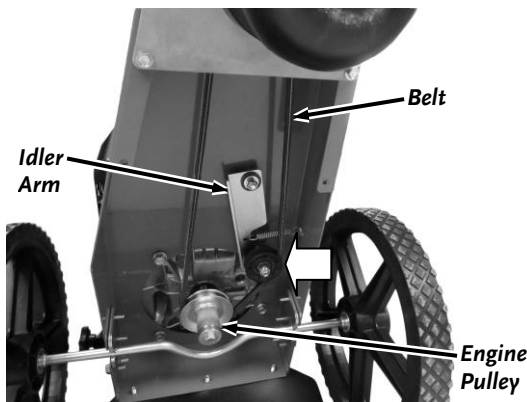

Figure 21
4. Move the Idler Arm away from the Belt and lift the Belt off the Idler Pulley (**Figure 21**).